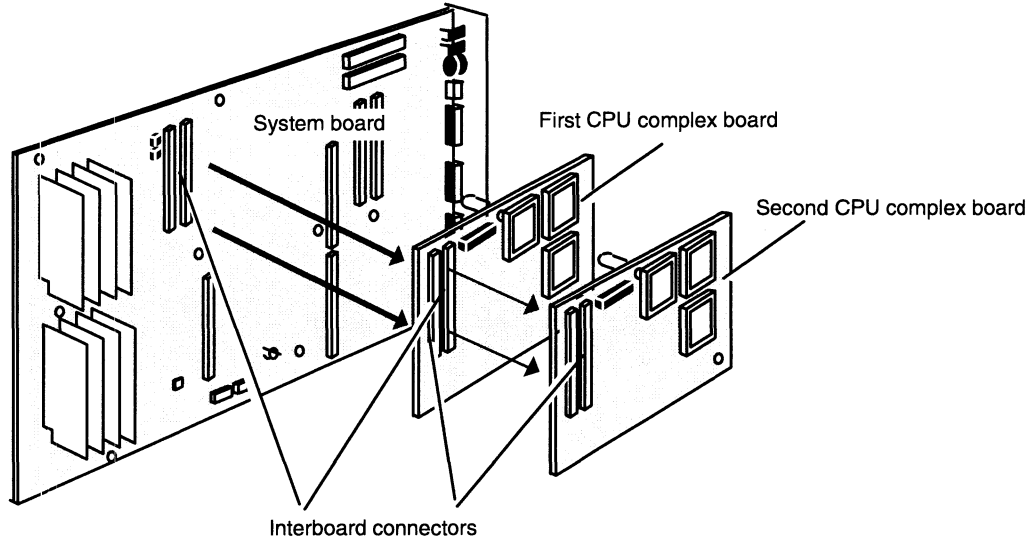

Figure 9-5 Separating the Interboard Connectors
2. Carefully separate the interboard connector on the back of the CPU complex board from the interboard connector on the board beneath it as shown in Figure 9-5.